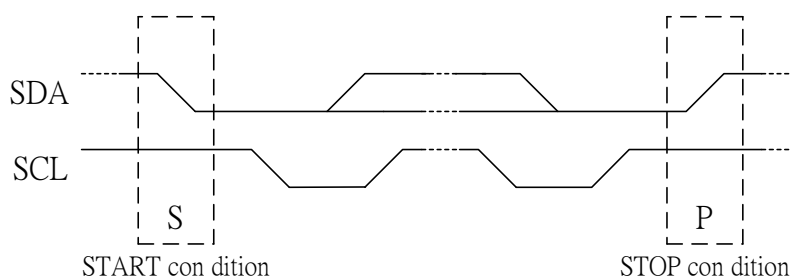

Fig .5 Definition of START and STOP conditions
Both data and clock lines remain HIGH when the bus is not busy. A HIGH-to-LOW transition of the data line, while the clock is HIGH is defined as the START condition (S). A LOW-to-HIGH transition of the data line while the clock is HIGH is defined as the STOP condition (P). The START and STOP conditions are illustrated in Fig.5.